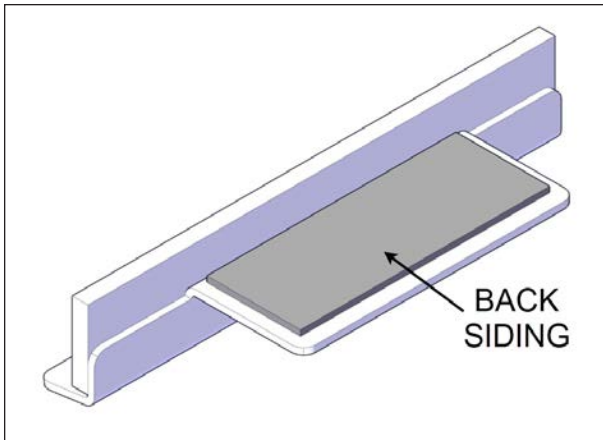

FIGURE 56: PEEL BACK WIPER SIDING
2. Peel back the red siding of the double-sided tape of one wiper, see Figure 56.